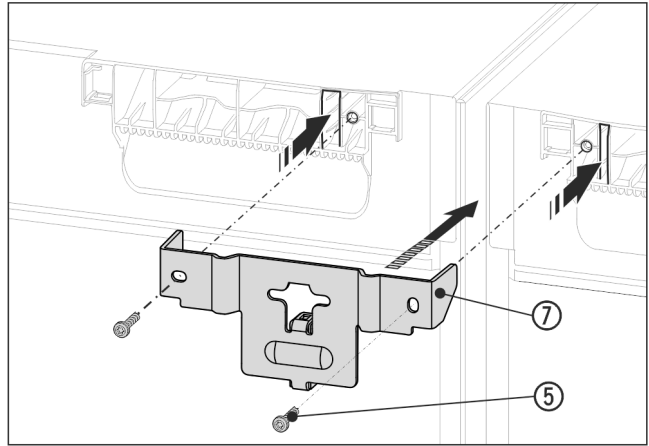

Fig. 13 Example illustration
- Slide the bracket Fig. 13 (7) onto the appliance ceiling with the lugs and with the spacer between the appliances. Screw in firmly with 2 screws Fig. 13 (5).